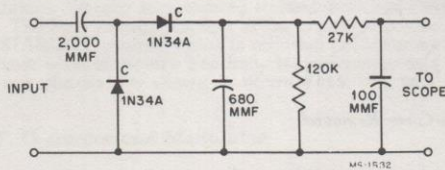

Figure 12—Video Detector Probe Schematic
3. Diode Detector, to rectify the swept output of the video amplifier. A suitable detector schematic, Figure 12, is shown below. It should be compactly constructed.